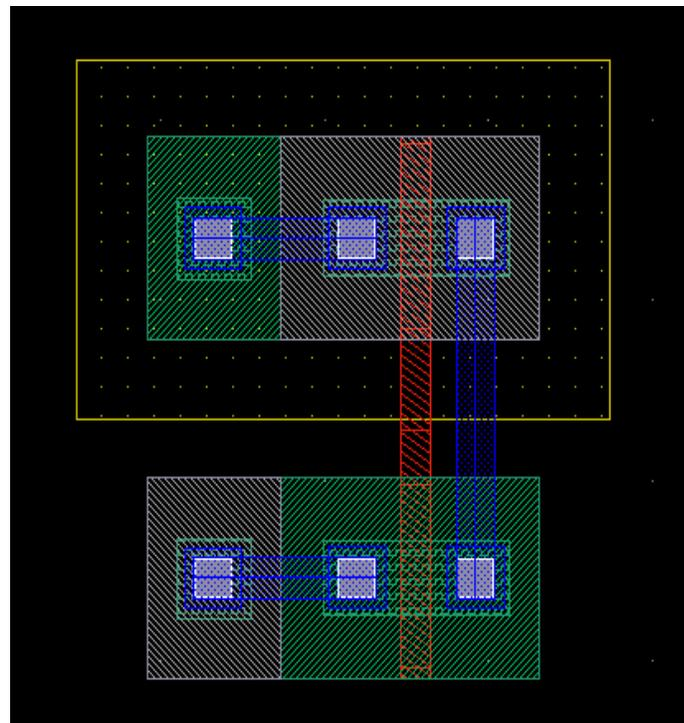

Fig. 8: Copy the PMOS layout and paste it in the area below. Change the PMOS diffusion layer accordingly.
1. Copy ('c') the entire PMOS transistor to the area below the PMOS transistor as shown on Figure 8.